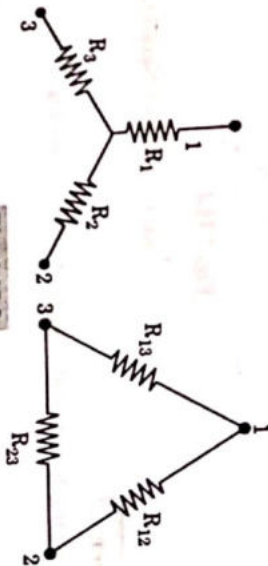

Fig. 1.13.2.
1. Consider Y - Δ connections as shown in Fig. 1.13.2.
4. If the Y-connection drawn in Fig. 1.13.2 is equivalent to the Δ -connection, eq. (1.13.8) and (1.13.9) must be equal.